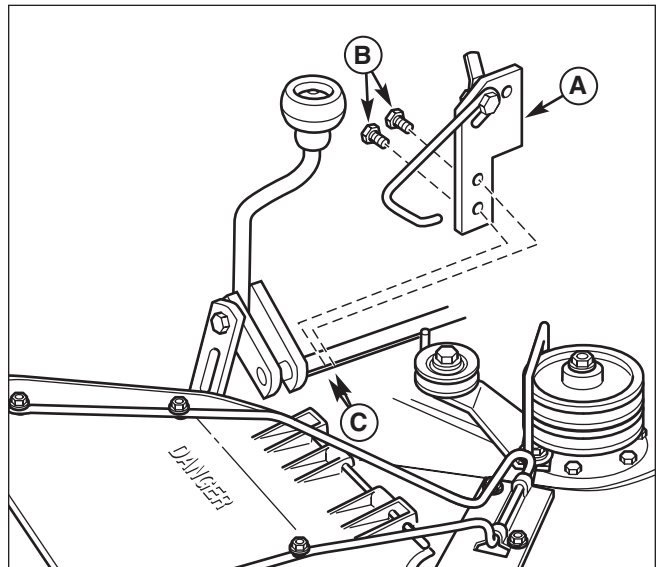

Figure 15. Install Deflector Latch Assembly - 38" Mower
**44" and 50" Mowers** - Insert 5/16-18 x 2-1/2 cap screw (H) into bracket (F). Install 5/16 washer (C), spring latch (E), 5/16-18 nut (D), 5/16 washer, 5/16-18 wingnut (B) and 5/16 nylock nut (A) onto cap screw (H) as shown.
**38" Mowers** - Slide 5/16 washer (C), spring latch (E) onto 5/16-18 x 2-1/2 cap screw (H). Install bracket (G) 5/16-18 nut (D), 5/16 washer, 5/16-18 wingnut (B) and 5/16 nylock nut (A) onto cap screw (H) as shown to make deflector latch assembly.
1. Install the deflector latch assembly (A, Figure 15) to existing holes (C) securing with 5/16-18 x 5/8 cap screws (B).